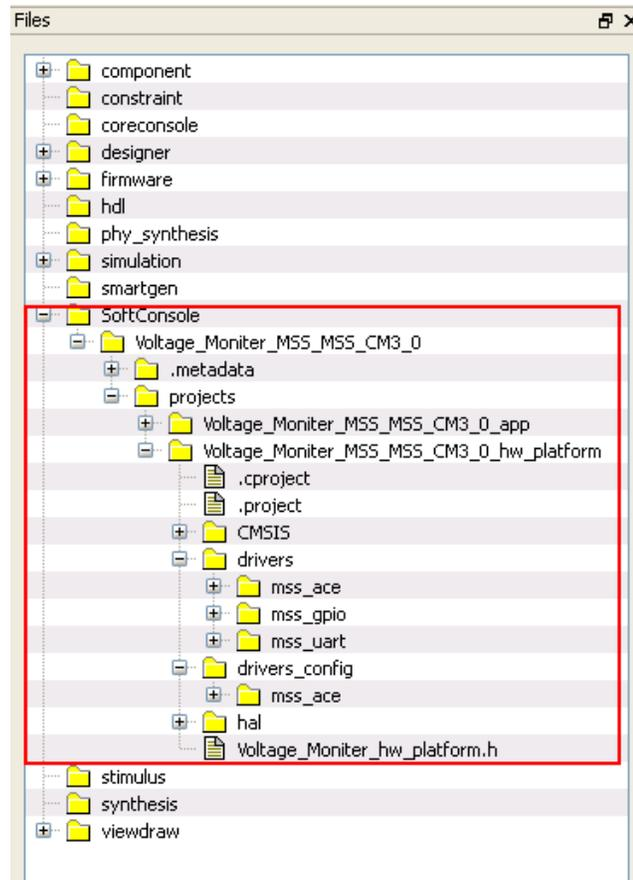

Figure 55 · Files Window
- Confirm that the SoftConsole folder is created with the folders and files as shown in Figure 55 . .